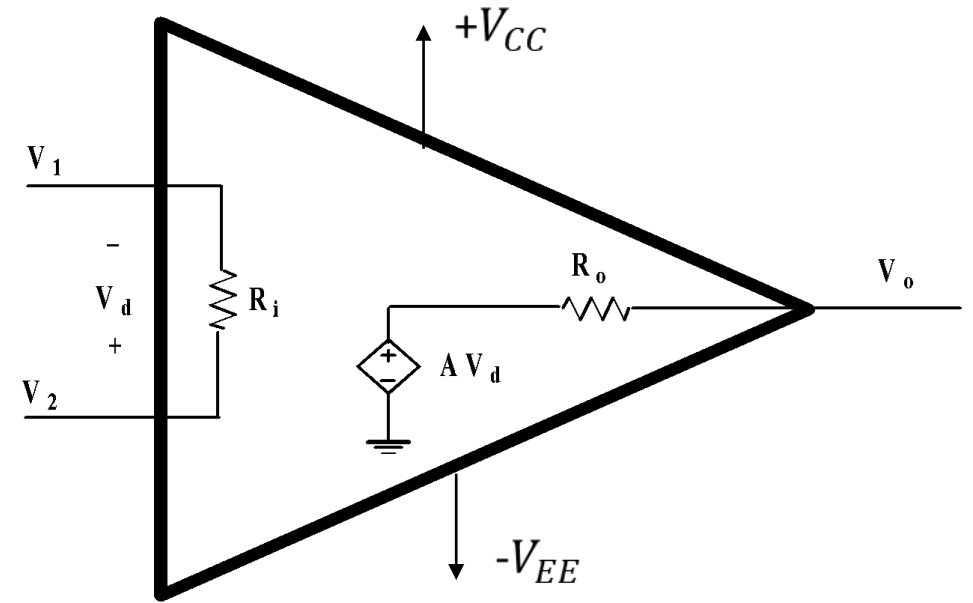

Fig.7. Equivalent circuit of an op-amp
- The equivalent circuit of an op-amp is shown in Fig. 7.